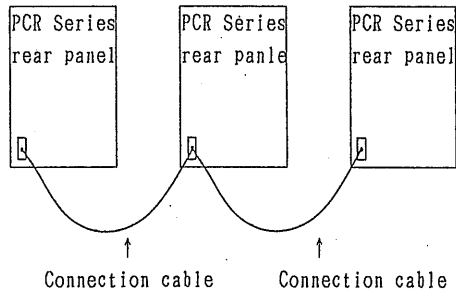

Figure 3-4
- (3) Connect the cables to the three phase control connectors as shown in Figure 3-4. Fix the screws of the connectors tightly by a screwdriver.